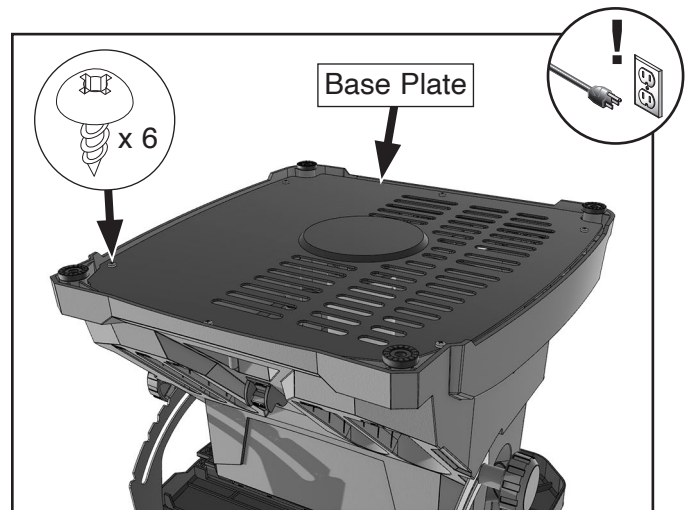

Figure 40. Location of base plate and screws.
2. Remove all sanding attachments, then place sander upside down on blocks (see **Figure 40**), ensuring proper clearance of spindle.
3. Remove (6) screws that secure base plate to remove base plate (see **Figure 40**).